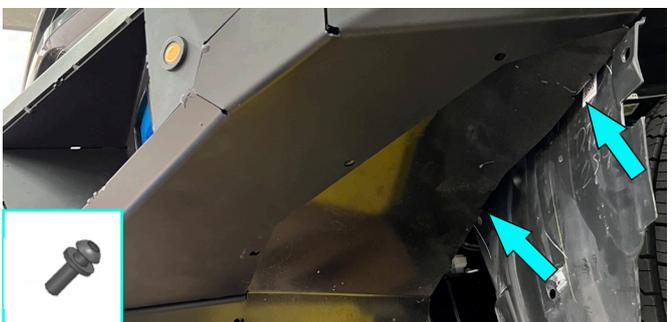

Fig.63
62. Mark and drill 2 holes in plastic fender according with holes in flap on each side of the vehicle. Fix flaps and fenders using screws M6x20, washers 6 (item A, I) (fig. 63).